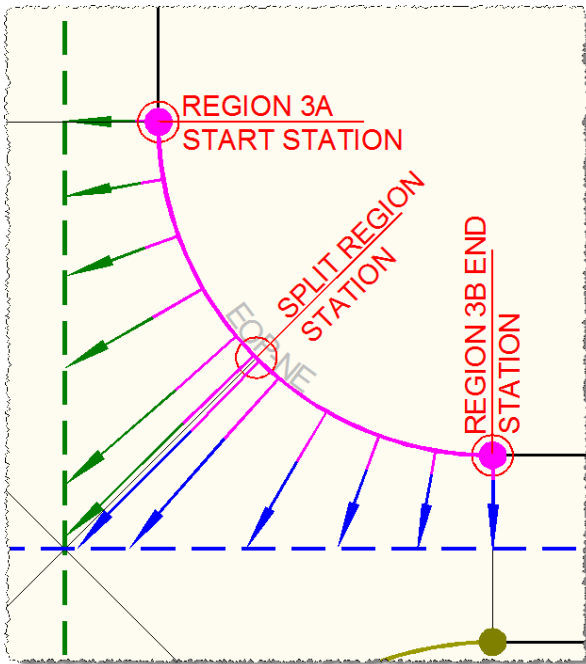

Figure 30
45. Use object snaps to select the PC station of EOP-NE (labeled Region 3A start station in Figure 30).
47. Snap to the PT station of EOP-NE (labeled Region 3B End Station in Figure 30).